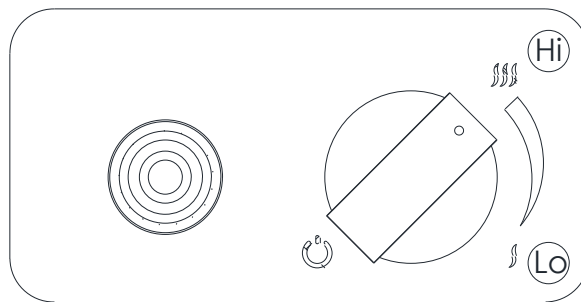

Fig 13 – Adjusting the flame high
- To turn off the device, simultaneously press and turn the knob all the way clockwise (*Fig 13*). The gas supply will be cut and the flame on burner will be turned off.